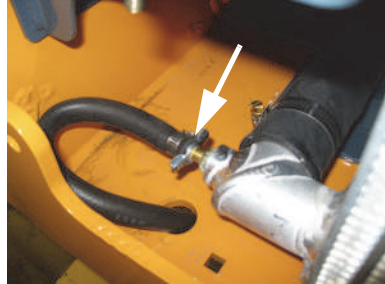

Figure 49 Radiator Drain Cock
5. Open the drain cock on the radiator (Figure 49) and drain the coolant into a suitable container.